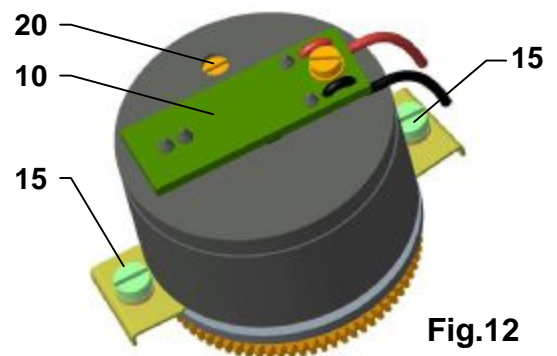

Fig.12
4.7 Adjustment of Capacitive Transmitter CPT1/A (Fig.12)